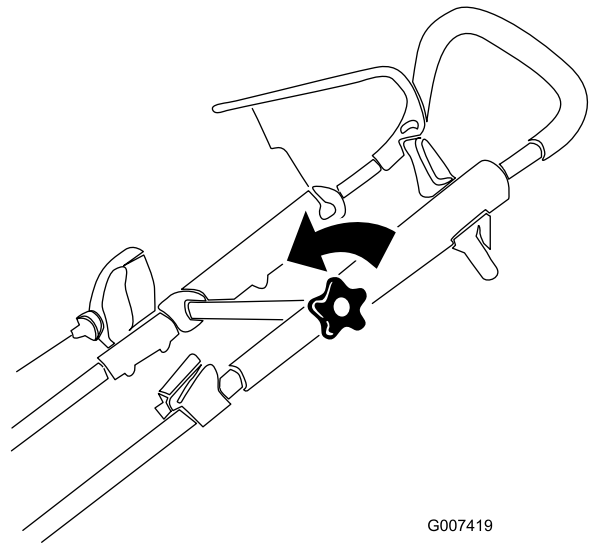

Figure 16
1. Loosen the upper-handle knob (Figure 16).